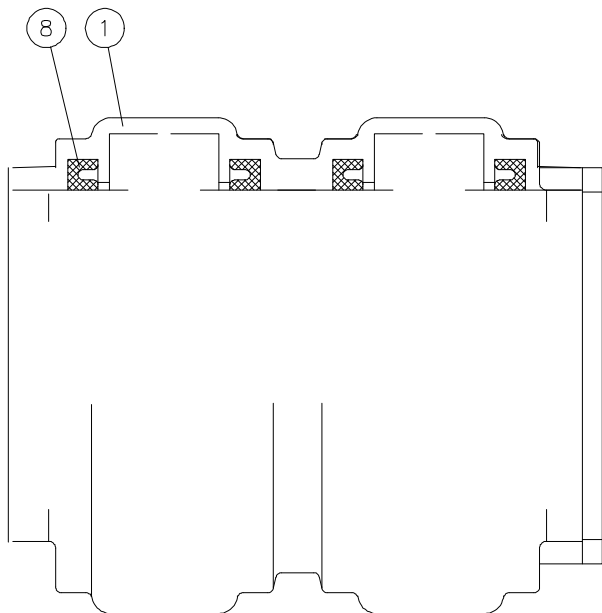

Figure 3
- 4.2.3 Pack the "J" Cups (8) with synthetic base grease and install into the housing bore noting the orientation of the seal. See Figure 3.